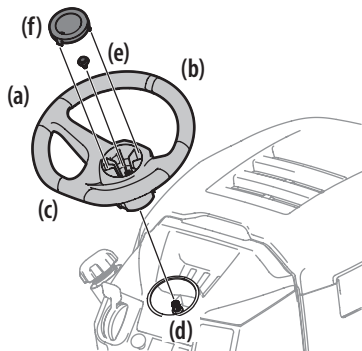

Figure 14
- With the wheels of the tractor pointing straight forward, align the steering wheel (a) by using the center-line (b) on the front of the steering wheel (a) pointing straight ahead and the flat section (c) of the steering wheel (a) facing toward the seat, place the steering wheel (a) over the steering shaft (d). See Figure 14.
- Secure the steering wheel (a) with the hex bolt (e) from under the steering wheel cap (f) and torque to 18-22 ft-lbs (24.4-29.8 N-m). See Figure 14.